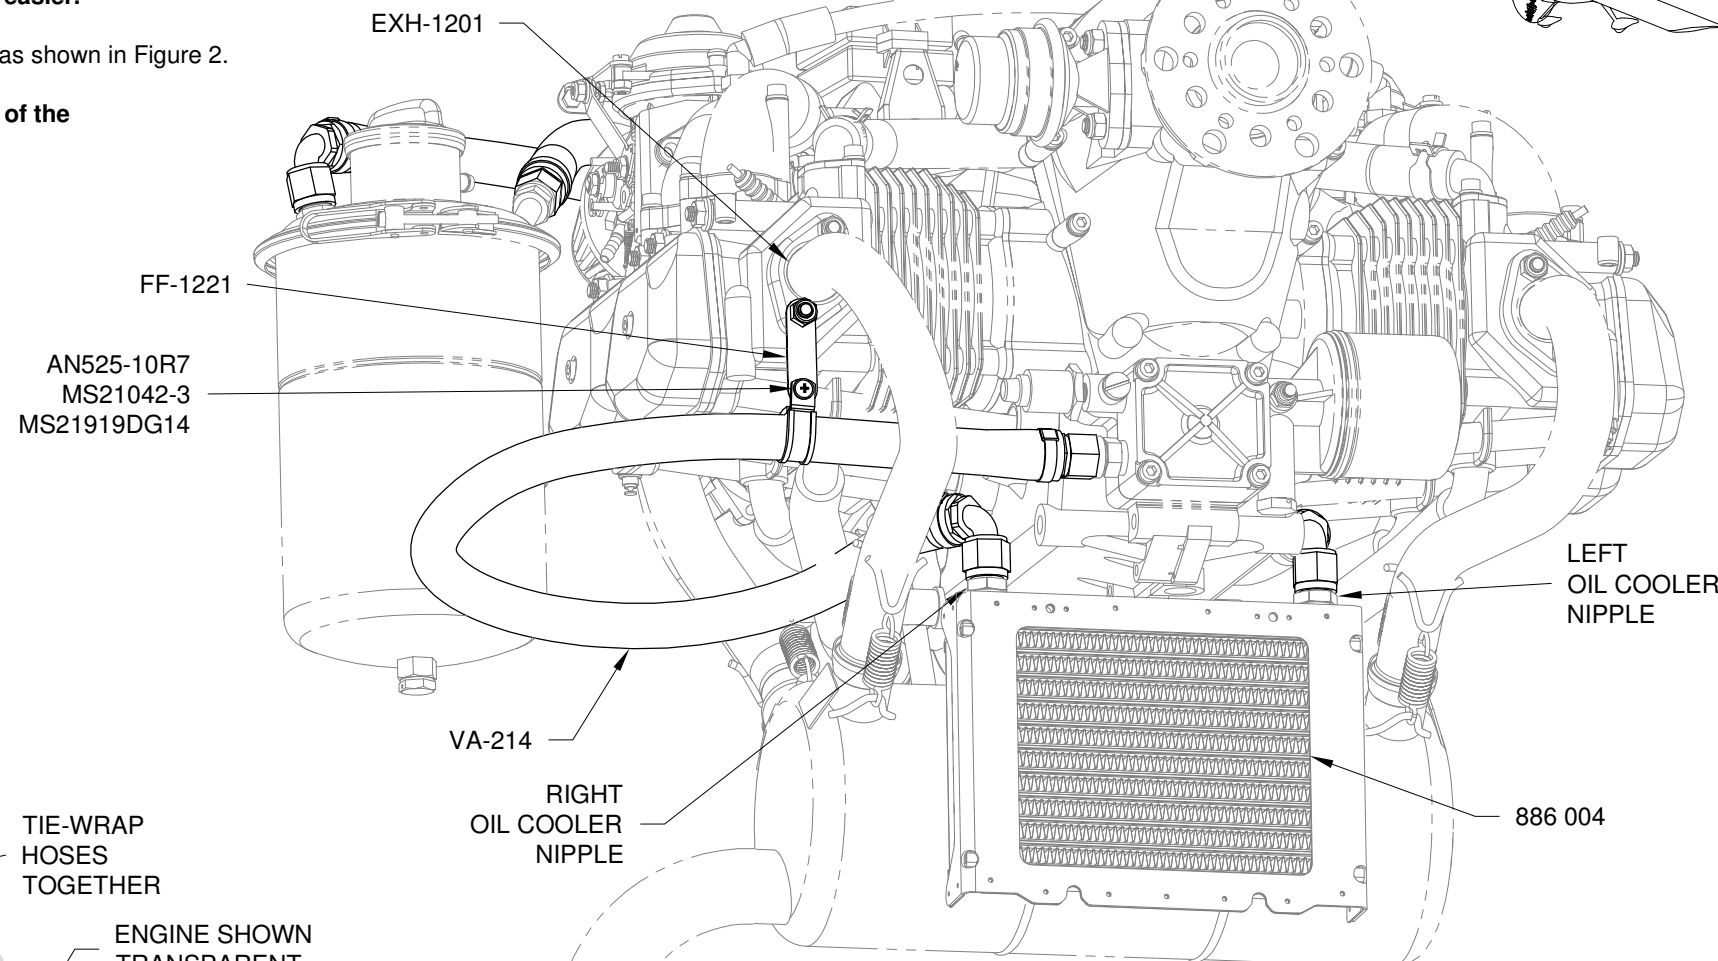

FIGURE 2: INSTALLING THE OIL HOSES FRONT VIEW
Step 4: Attach a cushioned clamp to the FF-1221 Hose Bracket and around the VA-214 Oil Cooler Hose as shown in Figure 2.
Step 6: With both oil cooler hoses that attach to the 886 034 Oil Cooler only finger tight, install the COWL 12 BOTTOM and drop the Oil Cooler Box Assembly into position on the two COWL 12 GUIDES (See Page 49-12, Figure 2). Remove the bottom cowl without disturbing the hose positions then tighten the hoses. Tie-Wrap the hoses together behind the engine in the location indicated in Figure 1 and Page 49-18, Figure 1.